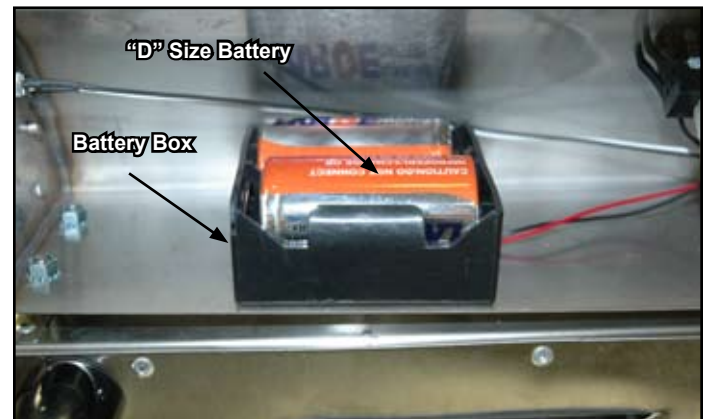

Figure 3
2. The battery box, with two “D” size batteries, is factory installed as part of the control panel assembly attached to the front of the grill cabinet. (See Figure 3).